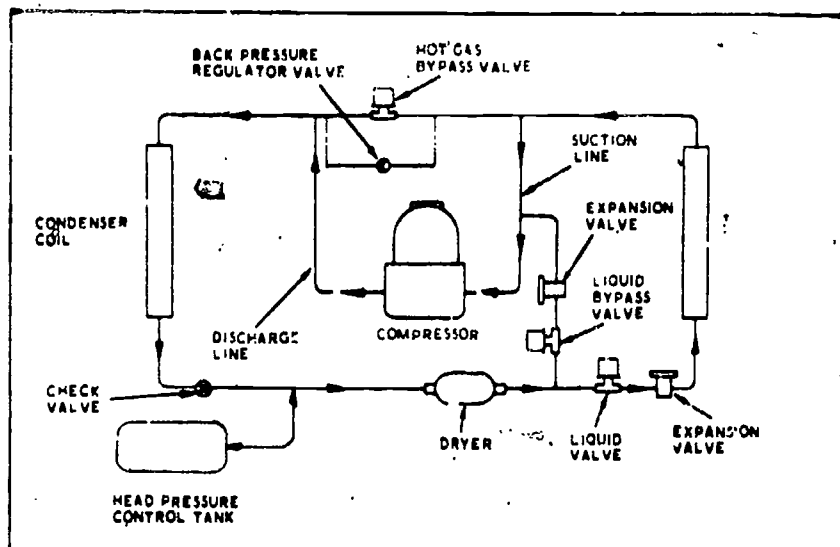

Fig 4-10. Cooling cycle.
(1) **Cooling cycle (fig 4-10).** During the cooling cycle, the liquid refrigerant, which is under condensing pressure, is metered into the evaporator through a thermostatically controlled expansion valve. As the refrigerant passes through the valve into the relatively low-pressure evaporator, a certain portion of the liquid immediately flashes (vaporizes). This flashing draws heat from the remaining liquid in the evaporator, lowering its temperature. Heat is then transferred from the warm indoor air passing over the evaporation coil to the chilled refrigerant, causing the refrigerant to vaporize. Then the heat-laden refrigerant vapor is drawn from the evaporator, through the suction line, to the compressor. Upon entering the compressor, the refrigerant vapor is compressed to condensing pressure and passed through the hot gas line to the condenser. Since compressing refrigerant vapor substantially raises its condensing temperature, the relatively warm outdoor air passing over the condenser coil surfaces is sufficient to condense the refrigerant vapor to a liquid. The liquid then leaves the condenser and returns to the expansion valve, through the liquid line, to complete the cycle. A back-pressure regulating valve prevents frost from forming on the evaporator.